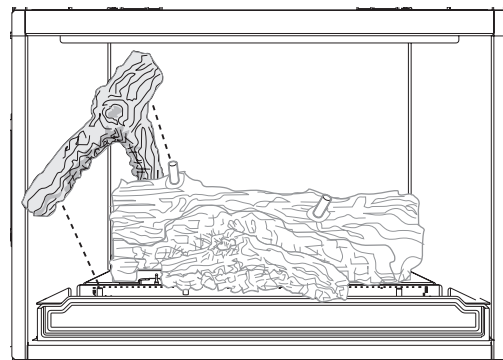

Figure 26. Engage left log on its pegs.
3. Set the Left Log on the appropriate pegs as shown in fig. 26.